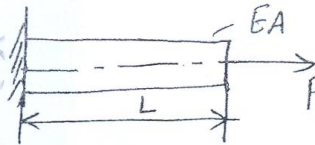

Fig. Q2(c)
c. Determine the nodal displacement at loading point, reaction, strain and stress for 1D bar subjected to axial load as shown in Fig. Q2(c). Consider $P = 100 \text{ kN}$, $E = 210 \text{ GPa}$, $A = 0.01 \text{ m}^2$ and $L = 1 \text{ m}$. (10 Marks)